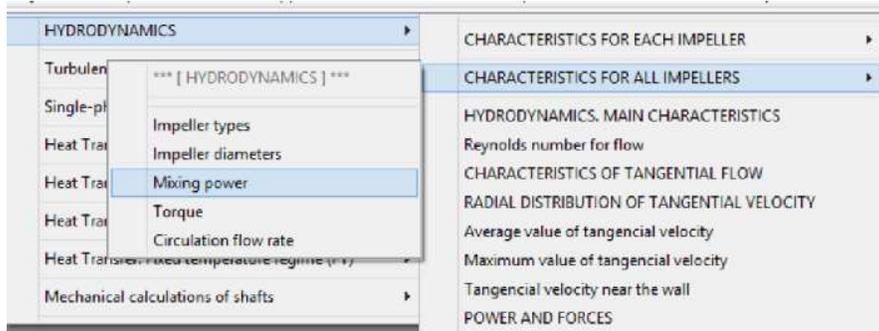

Figure 15. Menu options for comparison of impellers. Hydrodynamics.
**3.1. Power and circulation flow for each impeller.** Data for comparison of hydrodynamic parameters of impellers are accessible via the menu option **Hydrodynamics > Characteristics for all impellers** (Fig.15).